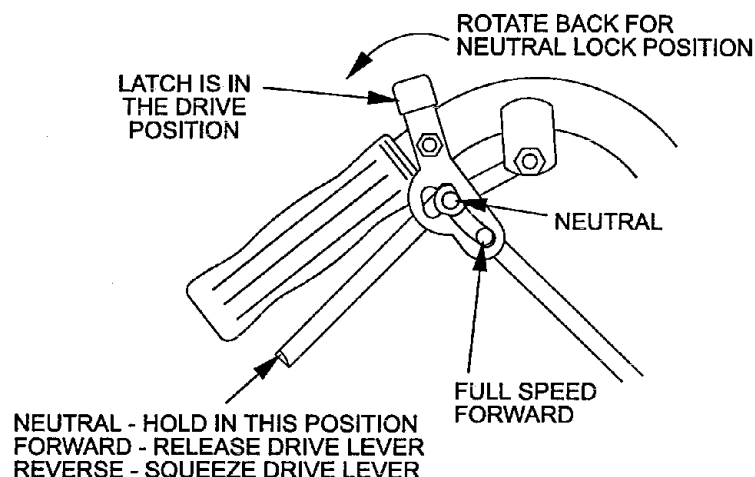

FIG. 4
- 4.1.1 Drive Levers: Located on each side of the upper handle assembly directly below the handle grips (See Figure 4). These levers individually control the speed and direction of each drive wheel. When the speed control lever is moved
out of the neutral position and the neutral lock latches are moved into the drive position, as shown in Figure 4, and the drive levers are released, the drive wheels are engaged in the forward direction.
- 4.1.2 Neutral Lock Latch: Located directly above the drive levers. These latches allow the operator to lock the drive levers in a "neutral" position where neither of the drive wheels are engaged in either a forward or reverse direction. See Figure 4.
4.3.3 Drive Lever/Neutral Lock Latch Operation: To lock the drive levers in neutral, squeeze the drive levers back to the neutral position (*Do Not squeeze the drive levers all the way back as this will cause the drive wheels to go into full reverse direction*). Place thumbs on the upper portion of the neutral lock latches and move them to the rear. Release drive levers (See Figure 4).
To back up, squeeze both drive levers into the reverse position (See Figure 4).